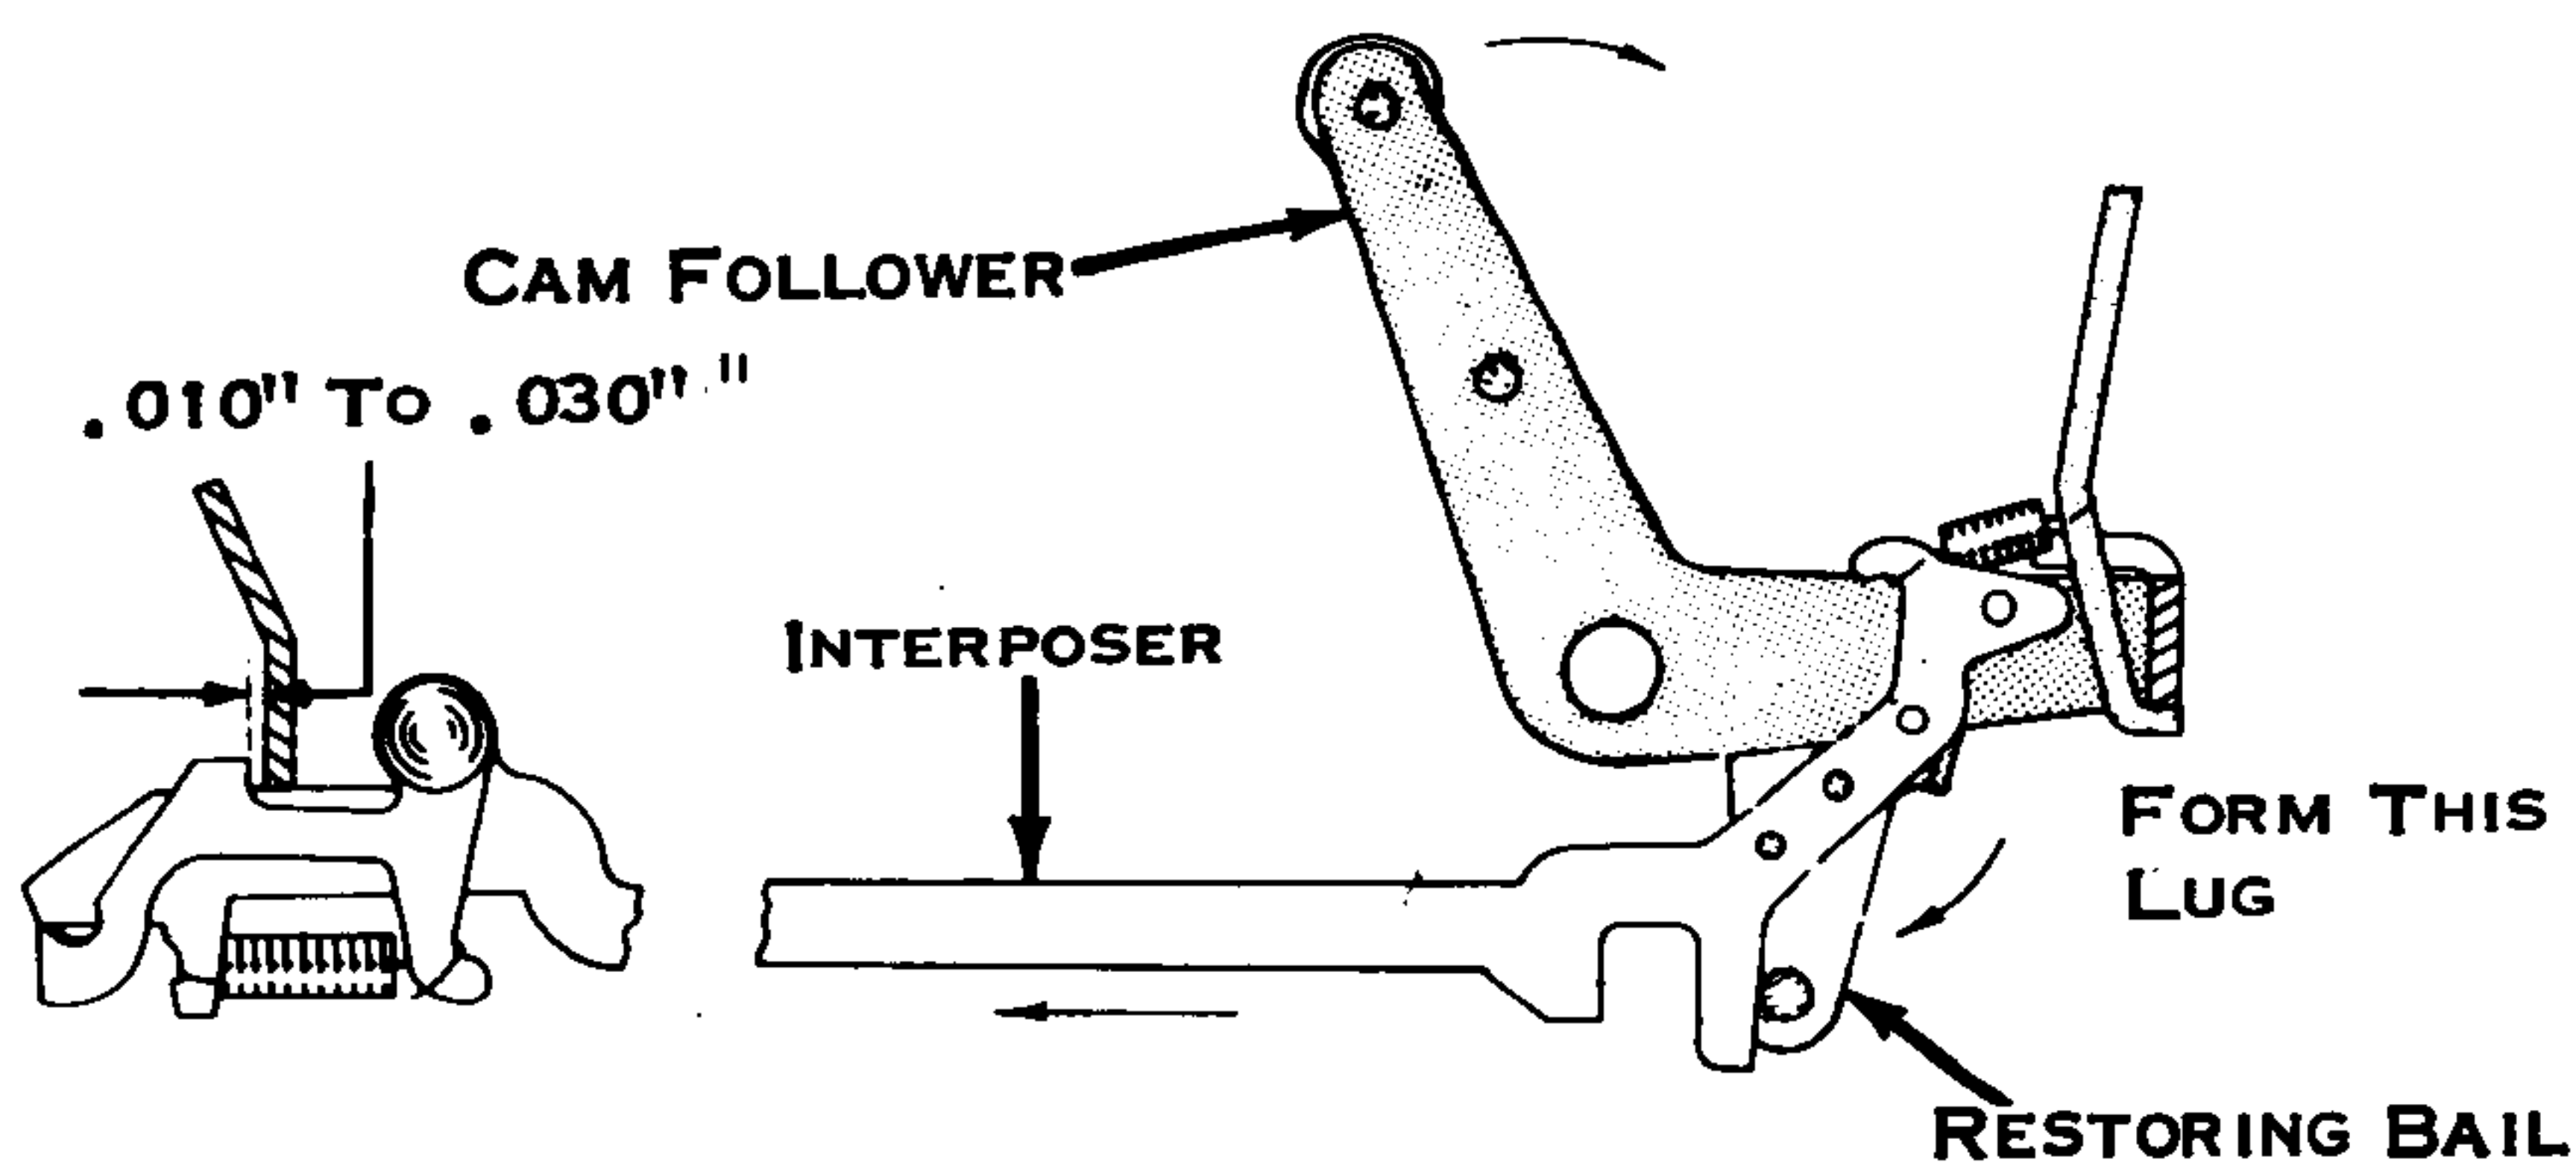

Figure 126. Interposer Restoring Bail
8. Interposer Restoring Bail (Fig. 126) - The interposer restoring bail lug should be formed at each side of the restoring bail so that the interposers will be restored forward .010" to .030" past the latching point.